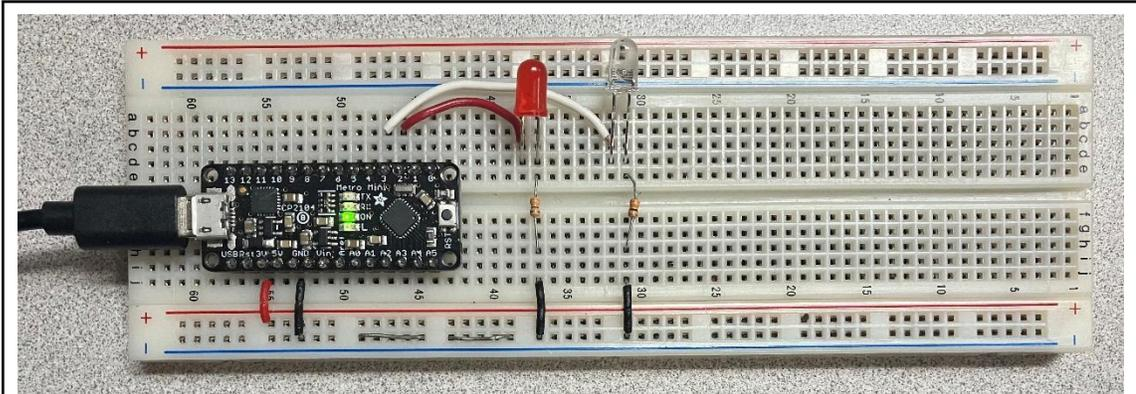

Figure 5: Correctly lit Arduino
4. An Arduino in ideal condition should have a green light labeled **ON** activate as seen in Figure 5 once the USB is plugged in.